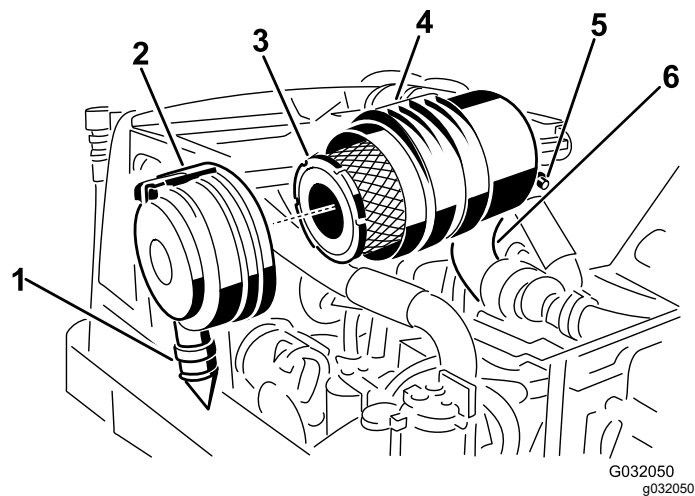

Figure 45
- Remove the primary filter (Figure 45).
- Replace the primary filter (Figure 45).
- Install the cover, orienting the rubber outlet valve in a downward position between the 5 o'clock to 7 o'clock positions when viewed from the end, and secure the latch (Figure 45).